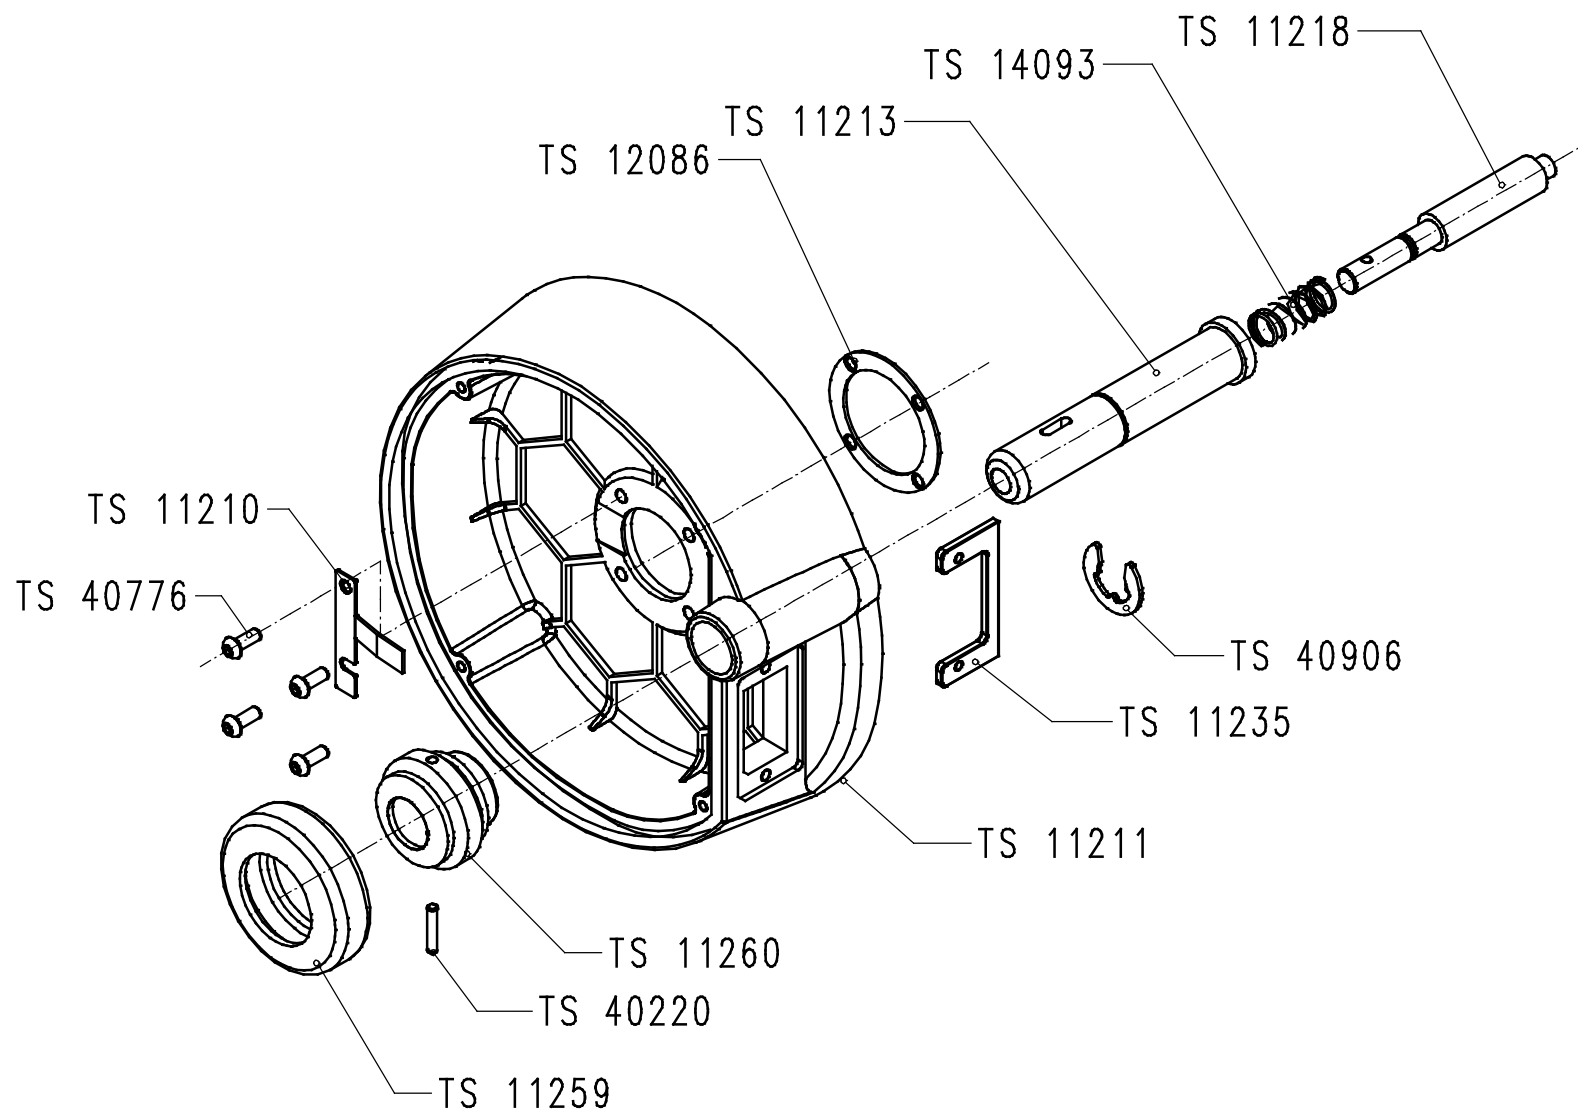

Figure 12-4: electronic box assembly TS 10190, details
- Figure 12-4: electronic box assembly TS 10190, details